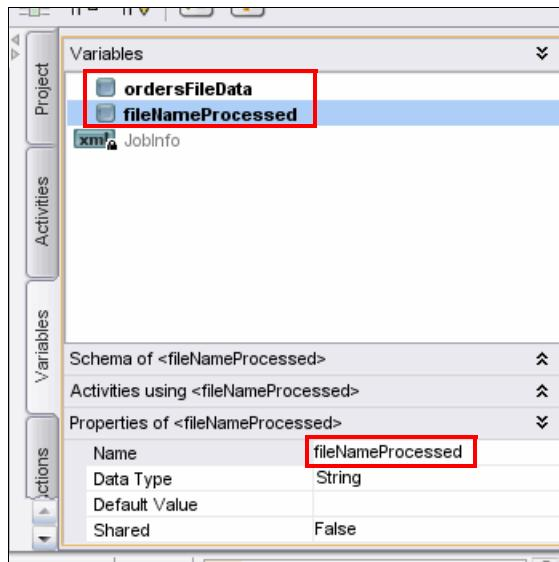

Figure 12-41 Renaming variables
1. Select the **Variables** tab, and change the variables named **filename** and **data** to **fileNameProcessed** and **ordersFileData** respectively in the Properties panel. Refer to Figure 12-41 on page 492.